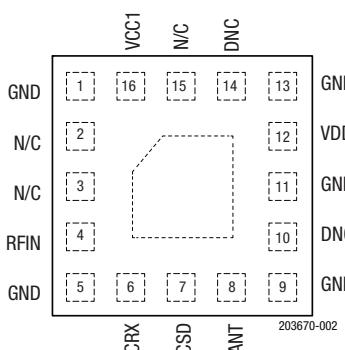
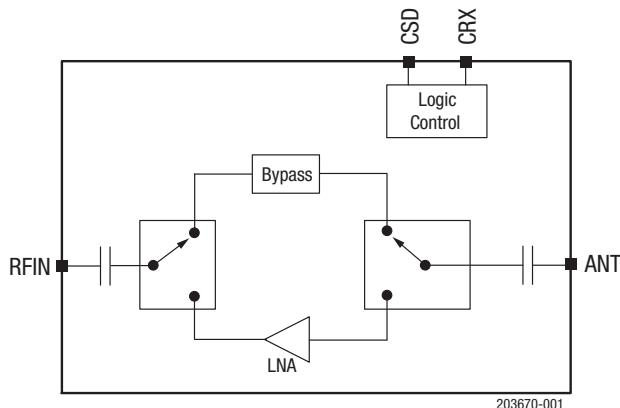

Figure 2. SKY66113-11 Pinout (Top View)
Figure 1. SKY66113-11 Block Diagram
- Low noise figure: 2 dB typical
A functional block diagram is shown in Figure 1. The SKY66113-11 is provided in a small, 16-pin, 2.4 \times 2.4 mm Multi-Chip Module (MCM) package. The pin configuration and package are shown in Figure 2. Signal pin assignments and functional pin descriptions are provided in Table 1.